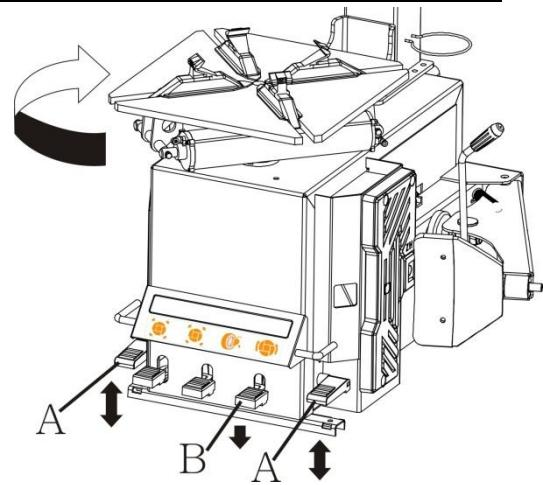

Fig. 12
- Check if the machine is connected properly by pressing the turntable control pedal (A, fig.12), the turntable should turn clockwise. This test is very important
- Now test the bead breaker by pressing the bead breaker control pedal (B, fig.12). Do this 3-5 times and let someone else watch if a drop of oil is injected in the regulator on the back of the machine (F, fig.11). If this is not the case, adjust with adjusting screw (E, fig.11)